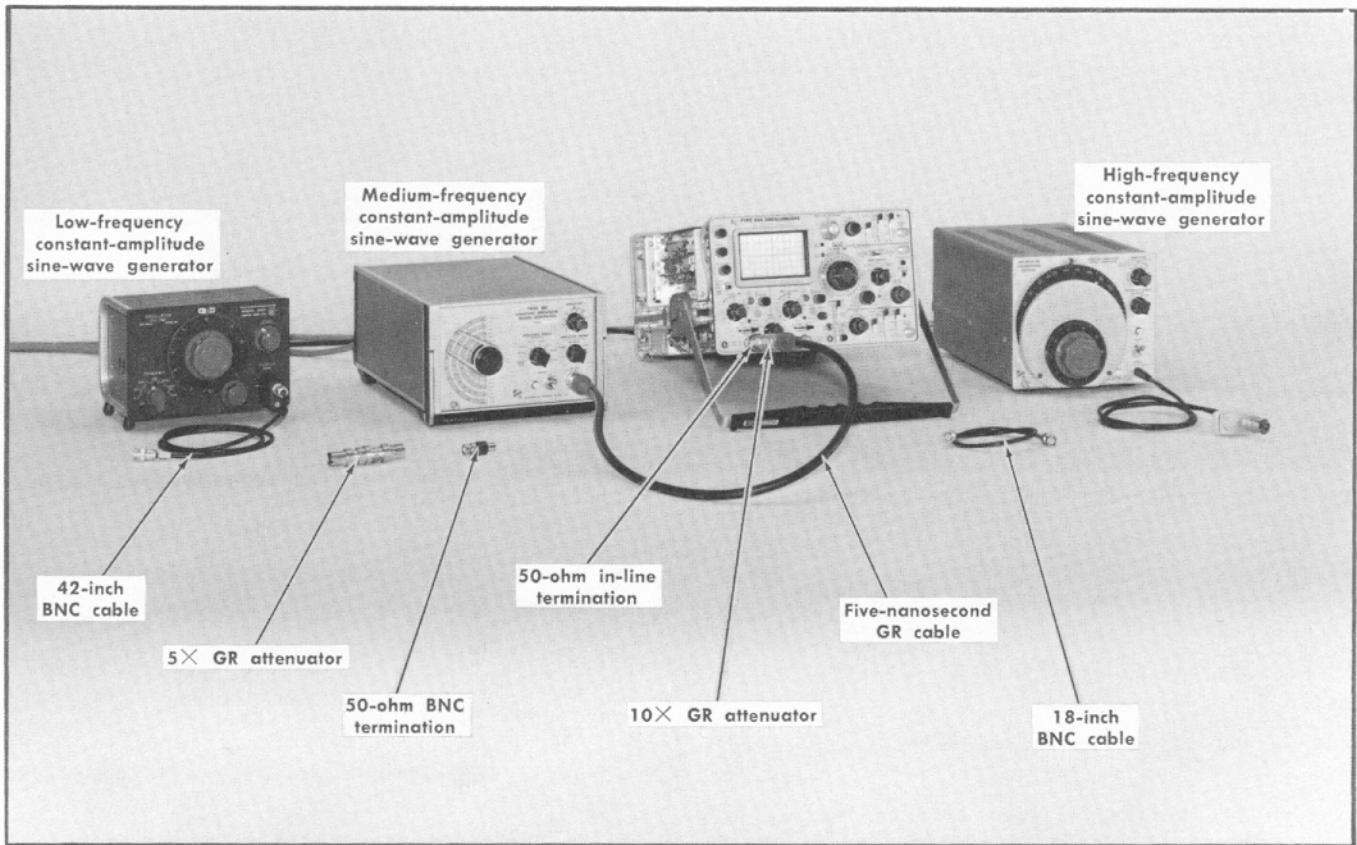

Fig. 6-28. Initial test equipment setup for steps 30 through 35.
a. Test equipment setup is shown in Fig. 6-28.